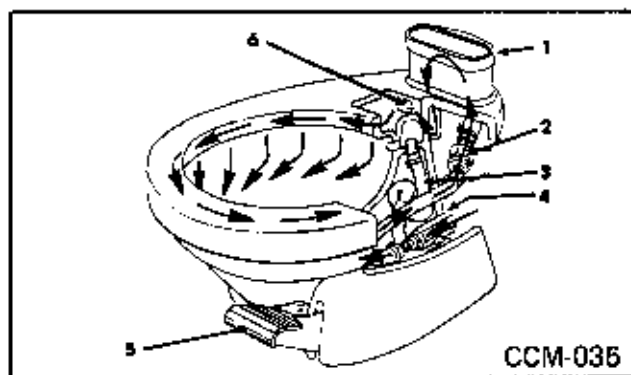

Fig. 37
If water flow seems to be restricted, the check valve screen may need cleaning. The check valve is in the water line between the water inlet valve and the vacuum breaker water control unit. Disassemble and remove the screen and clean thoroughly. (Fig. 37)
Open all water drain spigots in the incoming water lines. Separate the check valve and hold the foot pedal down allowing the system to drain. (Fig. 37)
### Parts Description, Figure 37:
*NOTE: Flow of water in Thetford Toilet is indicated by arrows. (Fig. 37)*